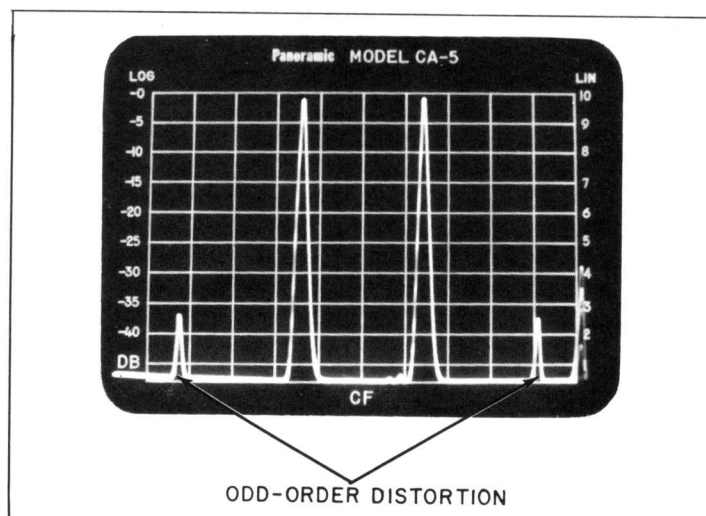

Figure 2-5. Typical CRT Presentation of Two-tone Test
- d. Odd-order distortion components are distributed symmetrically on either side of the main output signals and are located at separations equal to the frequency difference between them. The distortion components may be readily read as "dB down" from the reference levels. The third-order distortion components (first distortion pips) are usually the largest. Figure 2-5 illustrates a typical CRT presentation of a two-tone test.